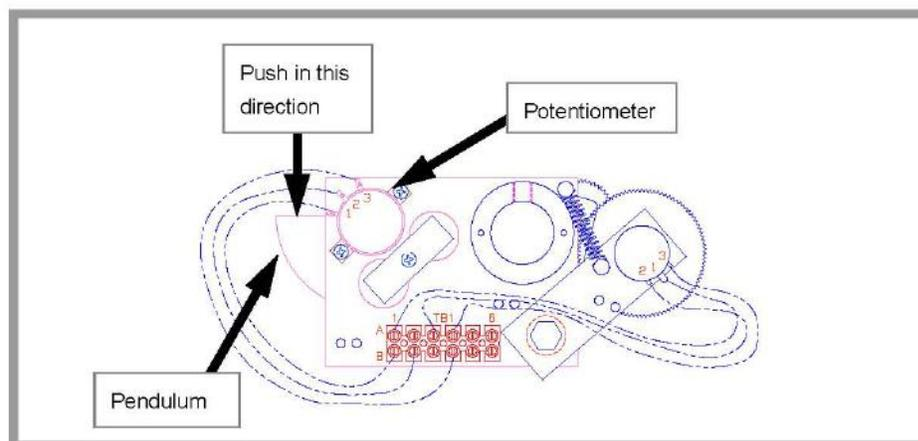

FIGURE 6.6
2. Locate the PENDULUM. Refer to Figure 6.6 below.